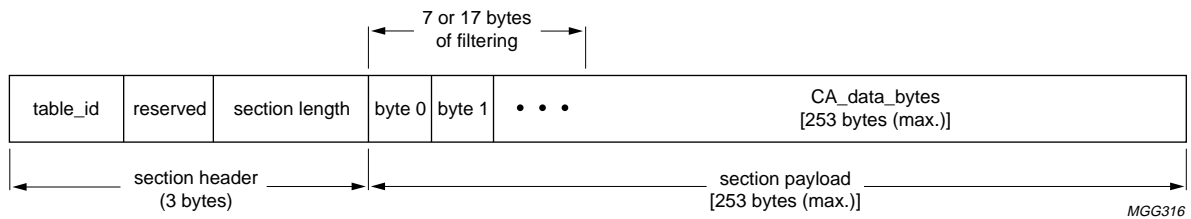

Fig.4 Syntax of the conditional access message.
- A Control Word (CW) bank containing 6 CW pairs and a default CW. A CW pair consists of 2 descrambler control words (odd and even), each word with a length of 64 bits.
- A microcontroller interface providing protocol handling for the memory mapped I/O control bus (Philips 90CE201 compatible). This module contains an interrupt request handler and data filters for the retrieval of Conditional Access (CA) information:
- The CA filters select data on the basis of PIDs, and a combination of MPEG-2 section addressing fields. Selected CA data is stored in eighteen 256 byte (constrained random access) buffers which can be read by the microcontroller. The CA message section has a maximum length of 256 bytes. It consists of a 3 bytes long header with Table\_id and section\_length data. The remaining part of the CA message are the CA\_data\_bytes (see Fig.4). If a section is longer than 256 bytes, the data capture is stopped (with an interrupt to the microcontroller) after 256 bytes are in the buffer and the 'section\_to\_long' bit is set. The filters are capable of monitoring 18 CA streams (containing EMM and ECM data) simultaneously. Two different lengths are used for address filtering:
Table 1 Explanation of Fig.4